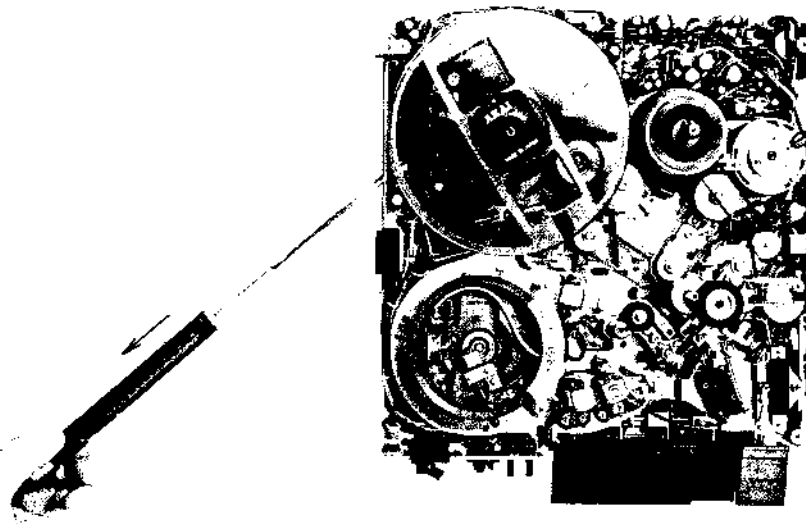

Fig. 1-8
- a) As shown in Fig. 1-8, using the same reel as described in Part (5), Item(a), set reel on supply reel table and with a 0 to 50g spring gauge, measure the supply reel table hold-back tension at playback mode.